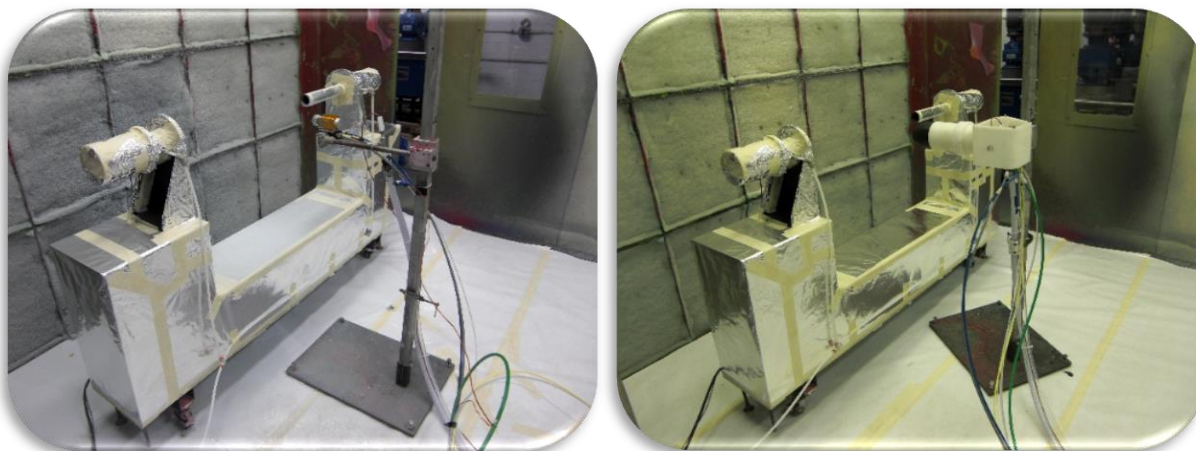

Figure 2: Cloud Measurement Setups
So how do these differences in atomization affect our day-to-day coating operation? This was put to the test at Carlisle Finishing Technologies' lab in Toledo, OH, using their Malvern Particle Size Analyzer to measure the distribution of particle sizes in the atomized cloud for a typical gun and bell as shown in Figure 2.
Though sequence was not important, the first tests were performed with the gun setup shown in Figure 2. With all other parameters held constant by the RCS system, temperature was varied in controlled increments from 65°F - 115°F (18°C - 46°C) for the expressed purpose of varying clearcoat viscosity. At each step, the resulting Dv(50) average particle size in the atomized cloud was measured using the Malvern.
Next, the gun was replaced with a bell in the setup shown in Figures 2 and 3. The cup speed was set at 32,000 RPM, and, as with the gun, all other parameters were held constant by the RCS system. Temperature was again varied in controlled increments from 65°F - 115°F (18°C - 46°C) for the expressed purpose of varying clearcoat viscosity and, at each step, the resulting Dv(50) average particle size in the atomized cloud was measured using the Malvern.